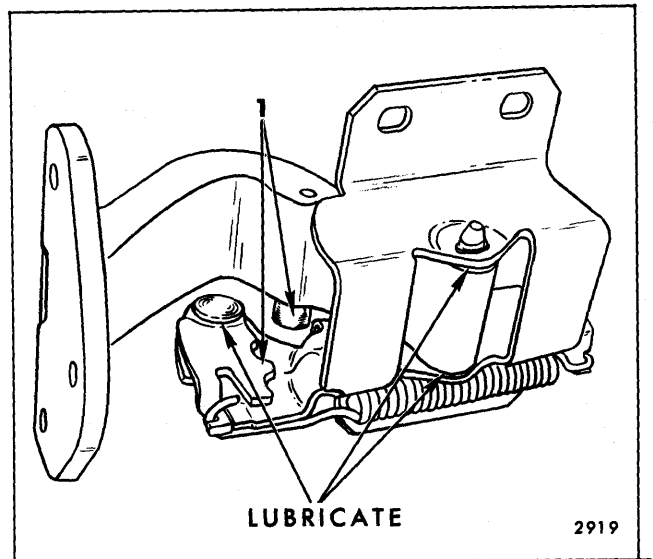

Fig. 2-3—Front Door Hinge Assembly - "B" Body Styles
2. Apply a thin coat of white lithium soap grease (Lubriplate 630 AAW or equivalent) to the pivot points and other friction areas of the front door hinge and hold-open assembly at the points indicated (Fig. 2-3).
**NOTE:** It is imperative that the contact surfaces of the detent roller and detent lever remain free of lubricant. Lubrication at these points indicated 1 in Figure 2-3, would result in a sliding action instead of the desired rolling action.